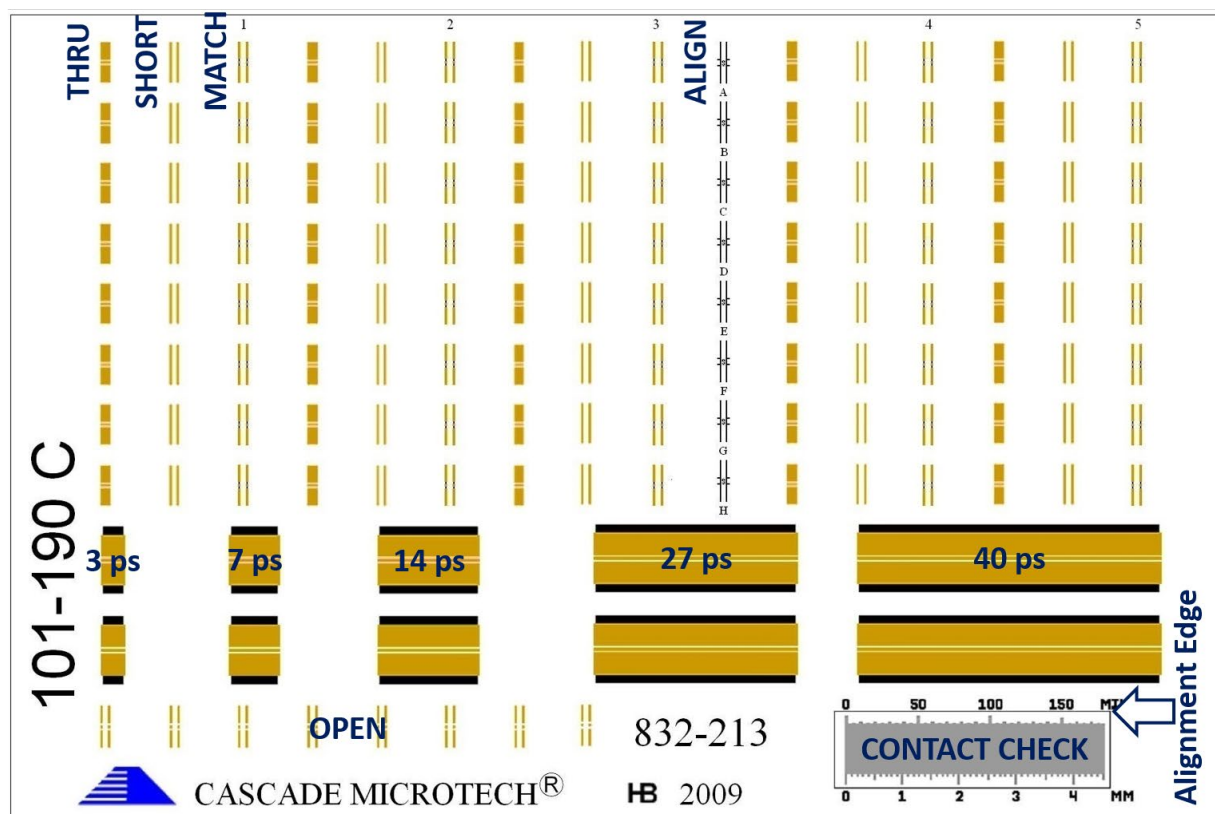

Fig. 5.1. CASCADE 101-190 impedance-standard substrate (ISS).
- 5.7 Move the chuck so that you can see through the microscope the "alignment edge" on the lower right of the ISS (Fig. 5.1). **Never allow the probes to touch and scratch the ISS in this step!** Otherwise, you may damage both the probe and ISS.
- 6.3 Locate the specified set of impedance standards on the ISS (Fig. 5.1). **Do not touch other sets of impedance standards!** Each set of impedance standards can only be probed for about 20 times.
- 7.8 To check the probe contact resistance, locate the "CONTACT CHECK" pattern on the lower right of the ISS (Fig. 5.1). Gently lower the z-lever to land both probes on "CONTACT CHECK," observing that the probe tips skate by the amount set in Sec. 6.